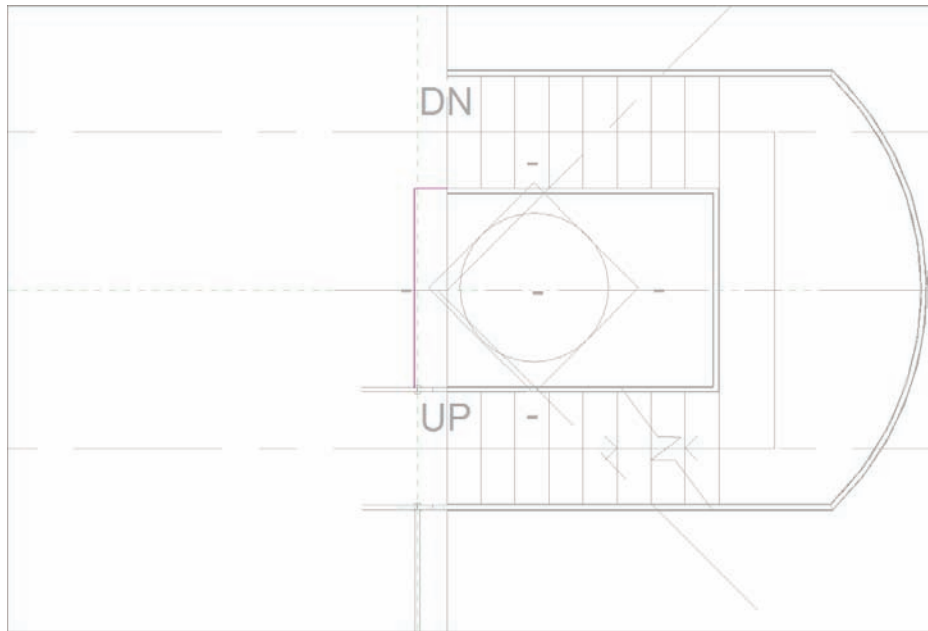

FIGURE 10.27 Adding the railing to the middle of the stair landing
3. Using the same 10 1/2" (262mm) offset, draw the sketch of the railing as shown in Figure 10.27.